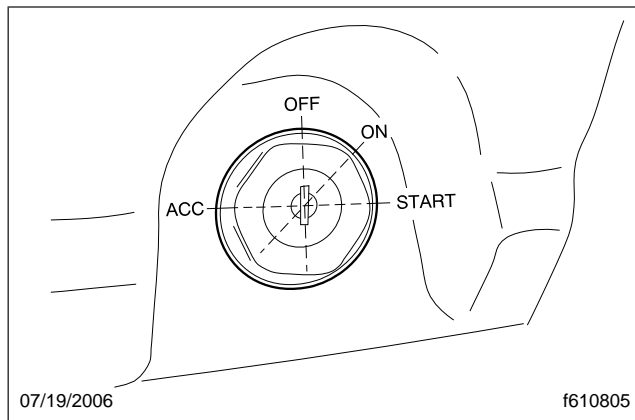

Fig. 9.1, Ignition Switch
4. Turn the ignition switch to the ON position. See **Fig. 9.1**. Electronic gauges on the instrumentation control unit (ICU) will complete a full sweep of their dials, the warning and indicator lamps will illuminate, and the buzzer will sound for three seconds.